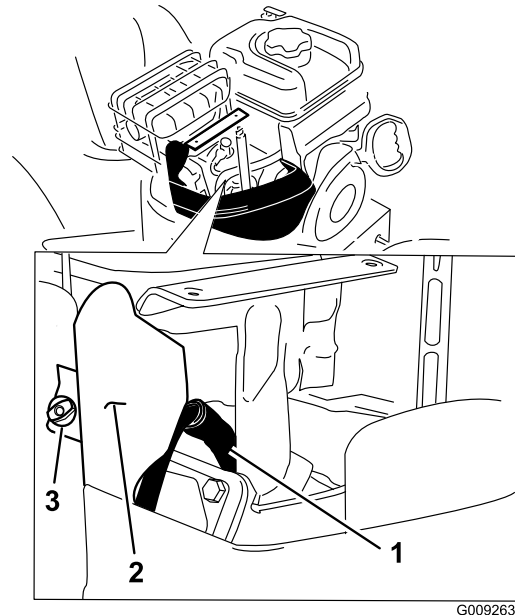

Figure 47
4. Remove the bracket thumb screw and the bracket (Figure 47)..
5. Clean around the base of the spark plug (Figure 47).